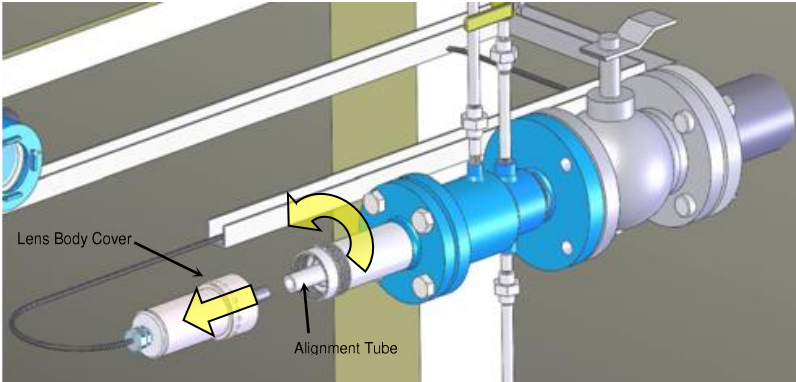

Figure 1
1. Unscrew the lens body cover without twisting or kinking the fiber optic cable. (Figure 1)
2. Slide lens body cover and fiber optic cable away from the main body of the unit. Note: A low temperature reading will occur on the HIR output. (Figure 1)